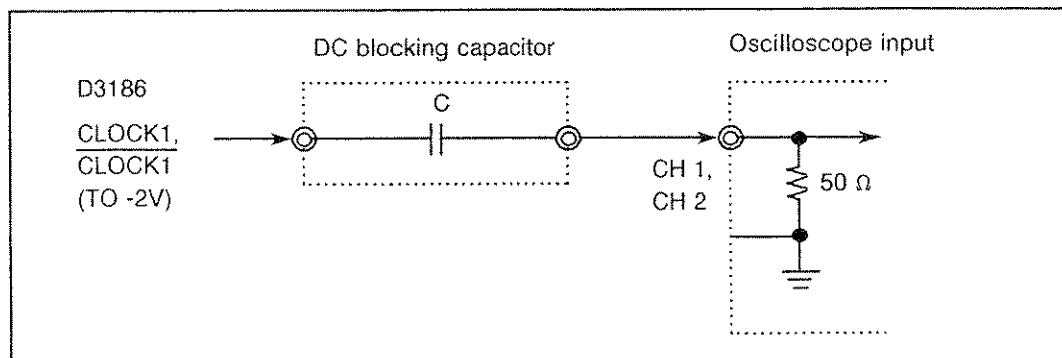

Figure 8-12 Connections of DC Blocking Capacitor
*If the input connection cannot be AC, insert a DC blocking capacitor between the CLOCK1, $\overline{\text{CLOCK1}}$ connectors and the oscilloscope CH1 and CH2 inputs, respectively, as shown in Figure 8-12.
At that time, if the input connection of the oscilloscope cannot be AC, insert a DC blocking capacitor between the CLOCK1, $\overline{\text{CLOCK1}}$ connectors and the oscilloscope CH1 and CH2 inputs, respectively. (See Figure 8-12.)
*If the input connection cannot be AC, insert a DC blocking capacitor between the DATA, $\overline{\text{DATA}}$ connectors and the oscilloscope CH1 and CH2 inputs, respectively, as shown in Figure 8-12.